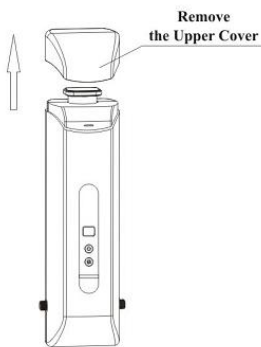

Figure 24
4.3.3.Open upper cover of shell as shown in Figure 24, unscrew the salt cover as shown in Figure 25, add 400 grams of special regeneration salt through salt adding port as shown in Figure 26. Stir the grain salt to be flat and distributed equally. Tighten the salt cover, put the upper cover. It is better to control the salt adding operation within in 3 minutes.